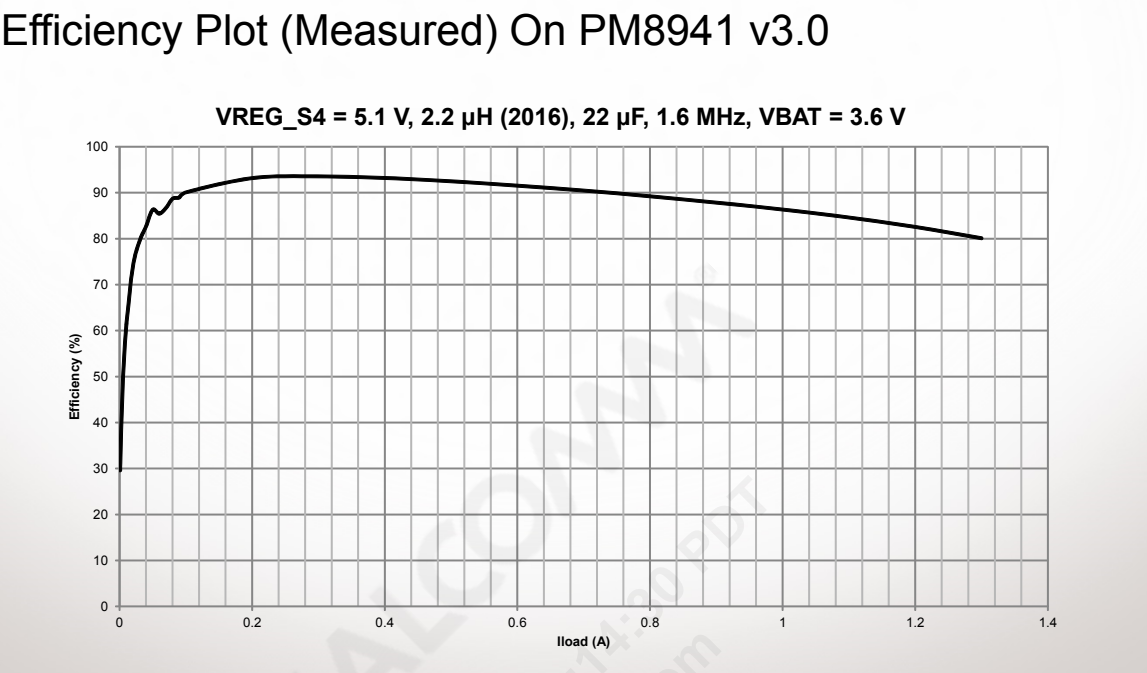

Figure 3-4 Boost SMPS efficiency
3. Figure 3-4 shows the boost efficiency plot under various load conditions.